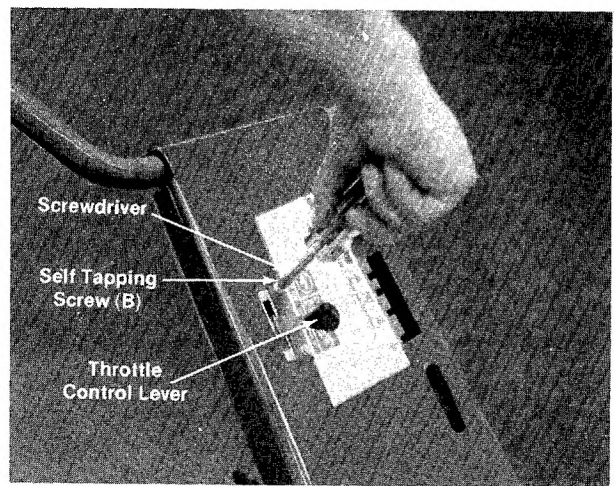

FIGURE 11.
Place throttle control lever up through the handle panel and secure with two (2) self tapping screws (B), using a 1/4" flat screwdriver. See figure 11.